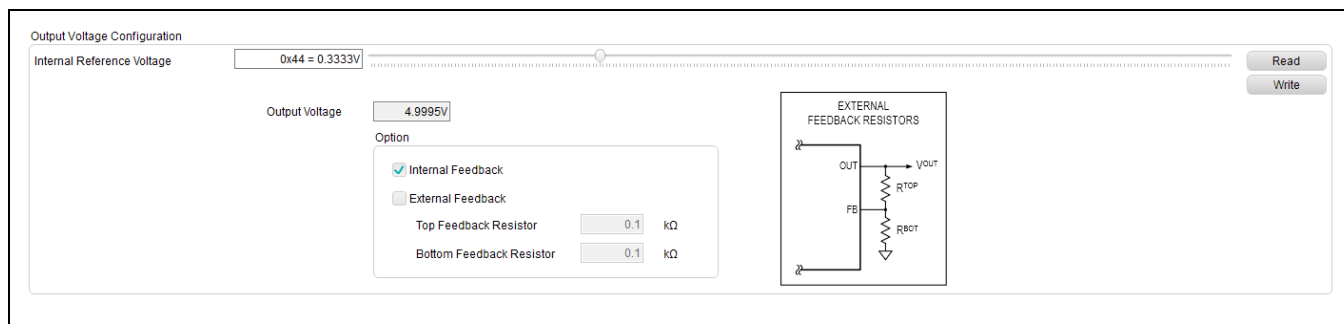

Figure 12. Configuration Tab—Output Voltage Configuration Section
The **Output Voltage Configuration** section (Figure 12) configures the EV kit ICs output voltage. The output voltage is changed by adjusting the internal reference voltage. Drag the slider to the desired internal reference voltage (or output voltage) and click **Write** to change the output voltage. Clicking **Read** returns the programmed internal reference voltage (or output voltage) to the GUI.
**Note:** Changing the **Internal Feedback** or **External Feedback** checkboxes (Figure 12) does NOT change the feedback configuration on the EV kit. It is only for calculating and displaying the correct output voltage value on the GUI software. If you wish to change the EV kit's feedback configuration, see the EV Kit Hardware Output Voltage Configuration section for details.